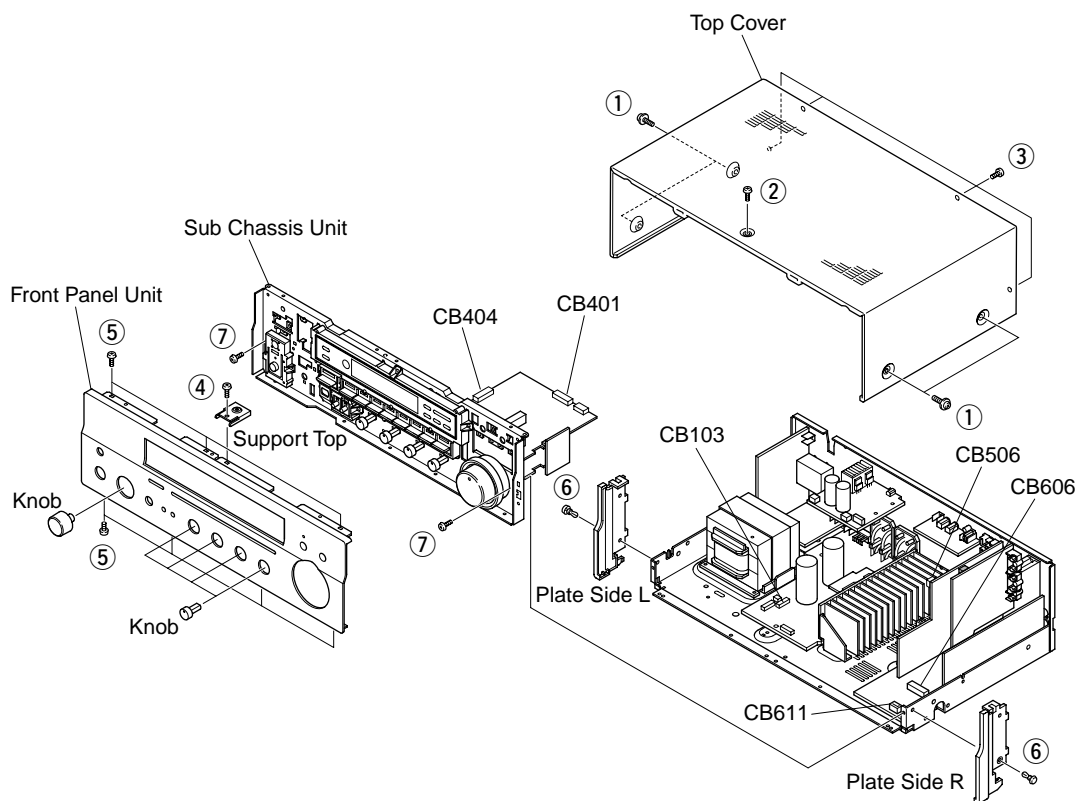

Fig. 1
- ⑰ OPERATION (1) P.C.B.
- ⑱ OPERATION (8) P.C.B.
- ⑲ OPERATION (5) P.C.B.
- ⑳ OPERATION (7) P.C.B.
- ㉑ OPERATION (4) P.C.B.
- ㉒ OPERATION (9) P.C.B.
- Remove 4 screws (①), 1 screw (②) and 4 screws (③). (Fig. 1)
- Slide the Top Cover rearward to remove it. (Fig. 1)
- Remove 1 screw (④) and then remove the Support Top. (Fig. 1)
- Remove 7 screws (⑤) and then remove the Front Panel Unit. (Fig. 1)
Remove 2 push rivets (⑥) and then remove the Plate Side L/R. (Fig. 1)
- Remove 2 screws (⑦) and then slide the Sub Chassis Unit forward. (Fig. 1)
- Remove connectors CB103, CB401, CB404, CB506, CB606 and CB611 and then remove the Sub Chassis Unit. (Fig. 1)